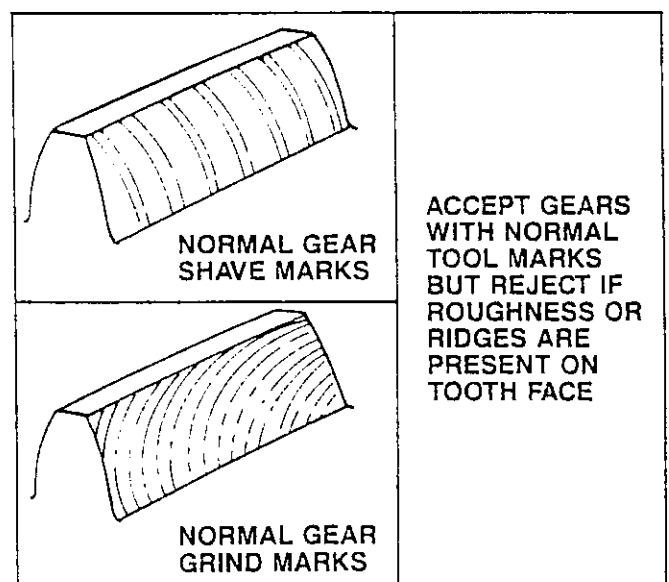

Figure 4-1. Normal Gear Tooth Tool Marks
**NOTE:** Do not confuse contact patterns with normal tool marks that are a result of manufacture. Typical tool marks are shown in figure 4-1.